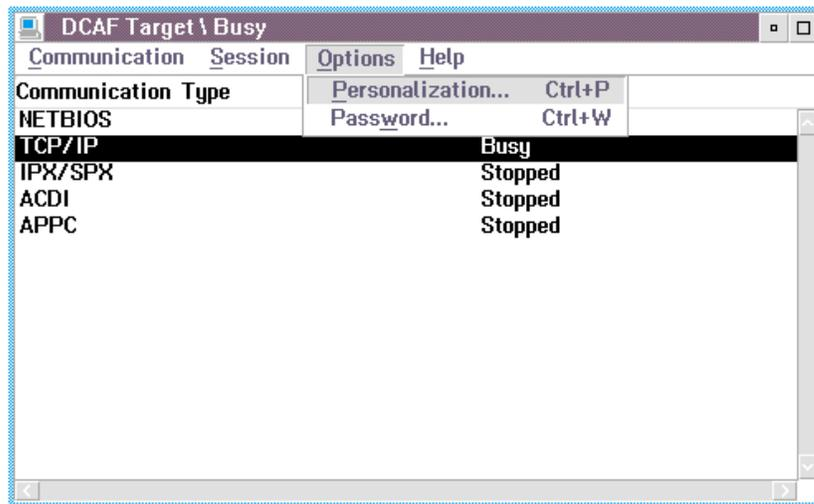

Figure 165. Options Pull-Down
- From the Options pull-down, select **Password** from the DCAF Target \ Busy window (Figure 165).